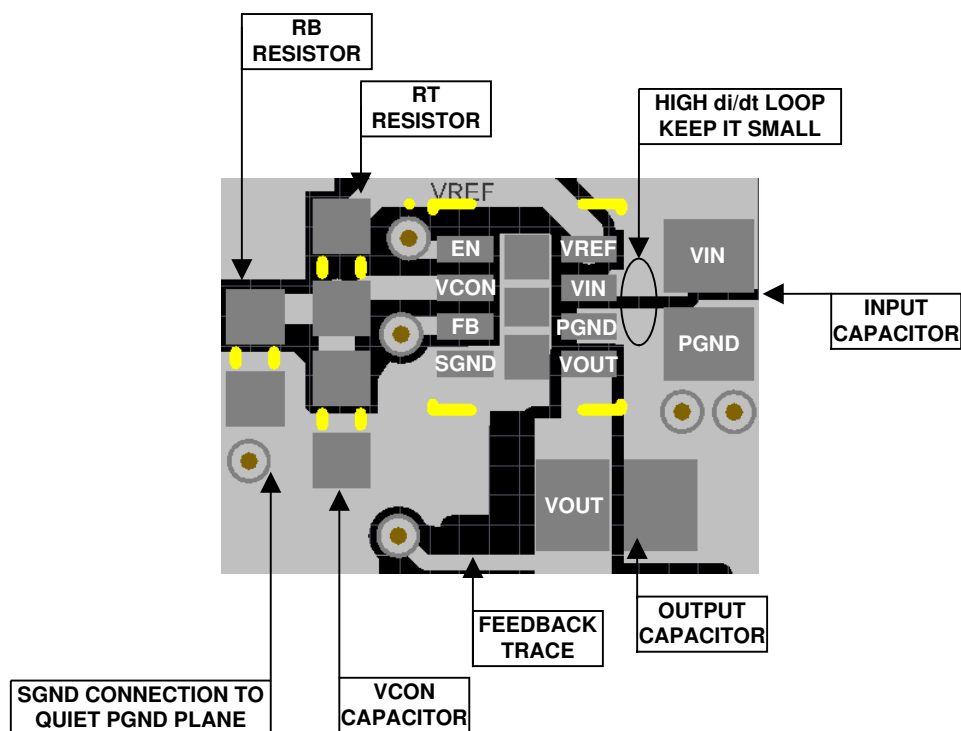

Figure 8-26. Example Top Layer Board Layout
The LMZ10500 integrates the inductor and simplifies the DC/DC converter board layout. Refer to the example layout in Figure 8-26. There are a few basic requirements to achieve a good LMZ10500 layout.
2. Place the V_{CON} filter capacitor C_{VC} and the R_{B} R_{T} resistive divider as close as possible to the V_{CON} and SGND terminals. The C_{VC} capacitor (not R_{B}) must be the component closer to the V_{CON} pin, as shown in Figure 8-26. This allows for better bypass of the control voltage set at V_{CON} .